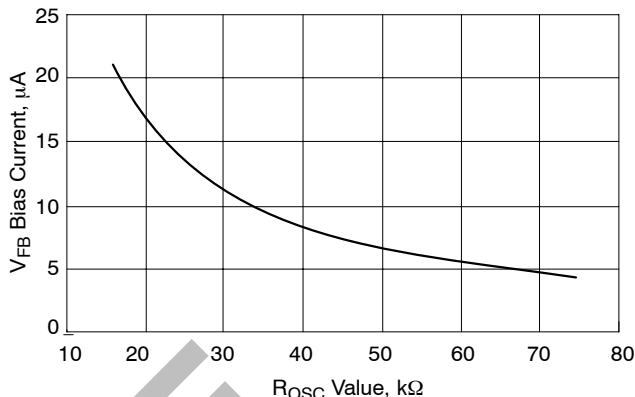

Figure 4. VFB Bias Current vs. ROSC Value
- The  $V_{\text{FB}}$  Bias Current changes with the value of  $R_{\text{OSC}}$  per Figure 4.
To set the no-load positioning, a resistor is placed between the output voltage and  $V_{FB}$  pin. The  $V_{FB}$  bias current will develop a voltage across the resistor to increase the output voltage. The  $V_{FB}$  bias current is dependent on the value of  $R_{OSC}$ . See Figure 4.